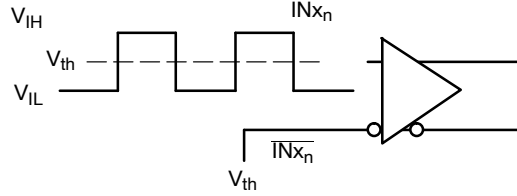

Figure 5. Differential Input Driven Single-Ended
## DIFFERENTIAL INPUT DRIVEN SINGLE-ENDED (Note 6) (Figures 5 and 6)
8. Differential 50% duty cycle at  $V_{INPPmin}$  clock source. Outputs evaluated with 50  $\Omega$  resistors to  $V_{TT} = V_{CC} - 2.0$  V (See Figure 16). Input crosspoint to output crosspoint for INxn/INxn̄ to Qx, Qx̄; 50% input to output crosspoint for SELx to Qx, Qx̄. See Figures 5, 10 and 11.